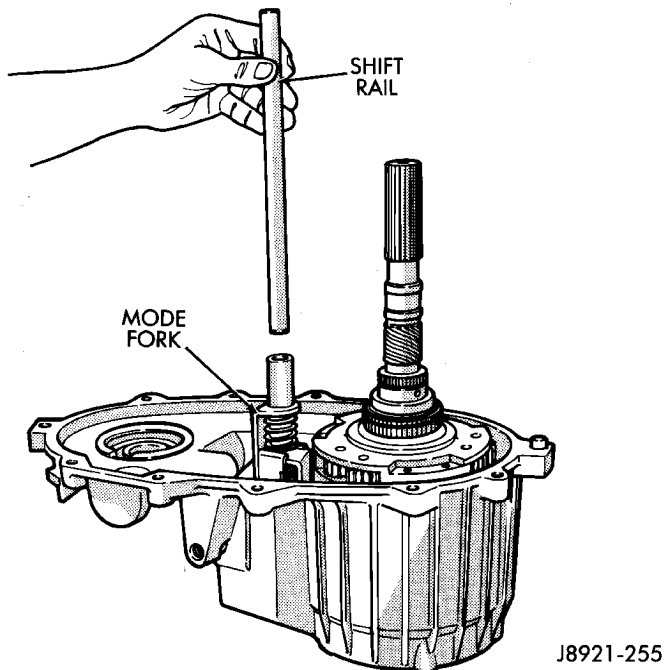

Fig. 80 Shift Rail Installation
(17) Rotate mode fork pin into shift sector slot.
(18) Install shift rail (Fig. 80). Be sure rail is seated in both shift forks.